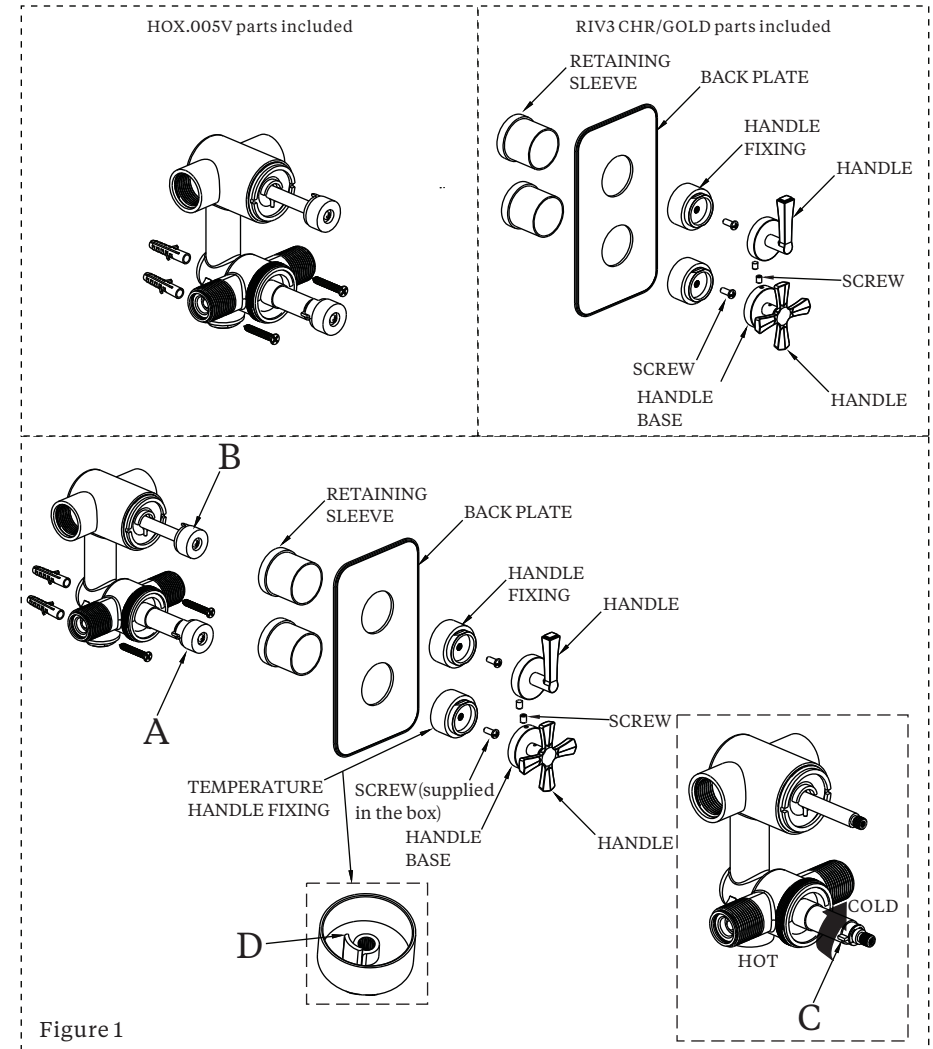

Figure 1
2. Parts should be assembled in sequence illustrated by Figure 1.
3. Mount casting to the wall using suitable fixings (See Fig 1).
5. Outlet at the top of valve is recommended for shower only, the pipe connection is recommended as the diagram above ((See Fig 1).
The suggested maximum "pre-set" temperature is 42°C. ((See Fig 1)